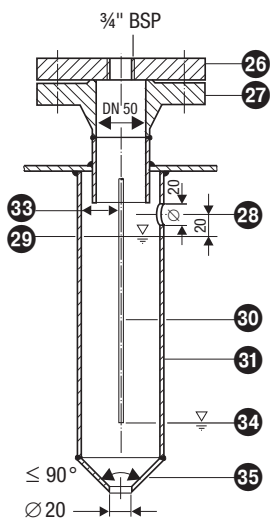

Fig. 16
- One level electrode NRG 1...-11 can be installed together with one GESTRA level electrode, one level switch or transmitter for water level control and high level alarm in one single protection tube or level pot (inside diameter 100 mm). **Fig. 16.** If the NRG 1...-11 is installed inside the vessel, it must be at least 40 mm away from the upper vent hole.